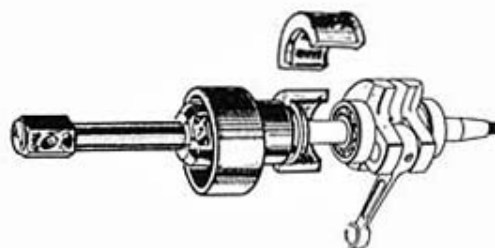

Fig. 5
- Extract the crankshaft bearings using the crankshaft bearing puller, 100011 (fig. 5).